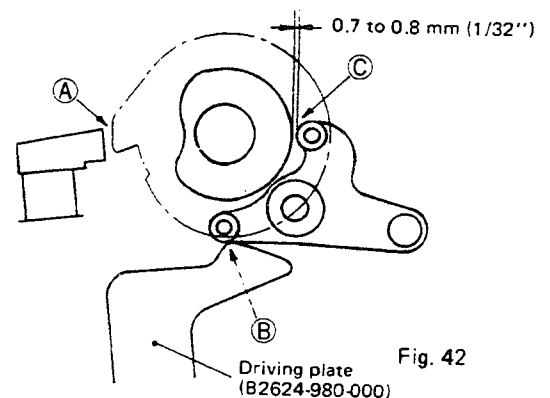

Fig. 42
- 1) If the moving knife shakes with a click while the machine is running at low speed, remove the thread trimmer components except for the thread trimmer cam on the main shaft and insert the stop-motion cam assembly without tightening the setscrews. Insert bed hook (See page 1 "1. Frame and Miscellaneous Cover Components" in the Parts Book) into gap ④ between the stop-motion hook and the closest point of the stop-motion cam (at the point where the radius of the stop-motion cam is the largest) and ensure that there is a 0.7 to 0.8 mm (1/32") clearance between the thread trimmer cam and the cam roller (at point ③). If edge ② (B1109-280-000) of the driving plate is worn out, the cam roller will not be kept away from the thread trimmer cam surface. Replace the worn driving plate (B2624-980-000). If the clearance at ③ is too small, the trimmer knife will shake with a click during low speed operation. If the clearance is too much, the start pedal will become heavy. (Fig. 42)